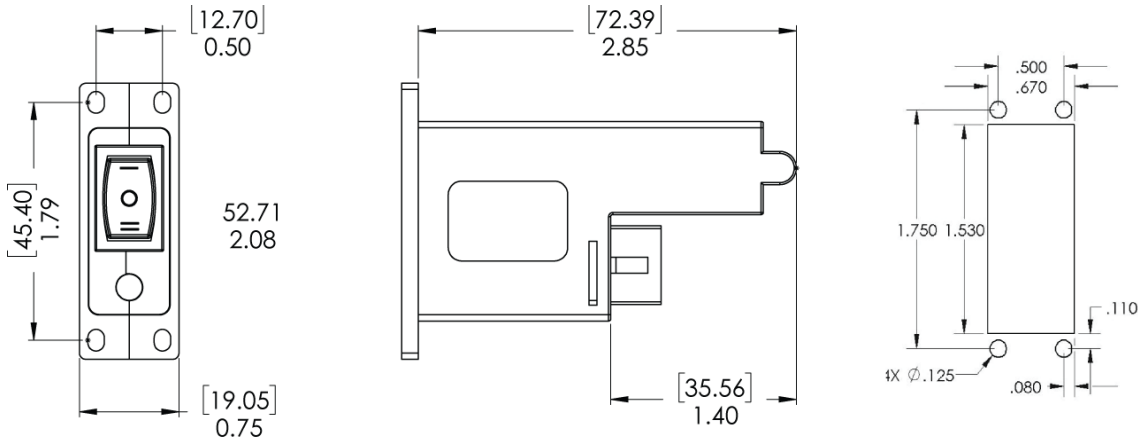

Figure 16 A3-06-3214 Remote Switch Outline and Dimensions
- 2) The switch assembly requires a panel area of approximately 2.0 x 1.3 in. (51 x 33 mm). Figure 16 shows the dimensions. The clearance behind the panel must allow for the mating connector and harness wires, as well as the switch depth.